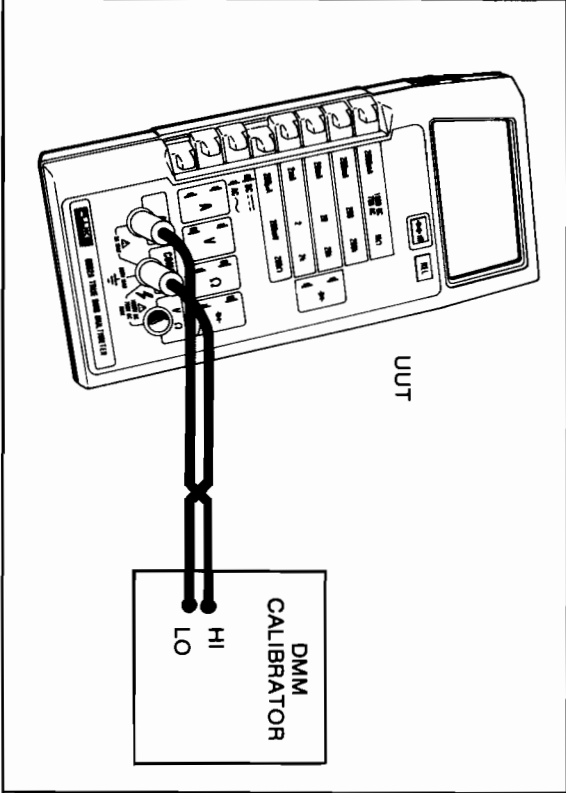

Figure 4-5. Equipment Connection for Current Test
- 1. Connect the UUT and the DMM Calibrator as shown in Figure 4-5.